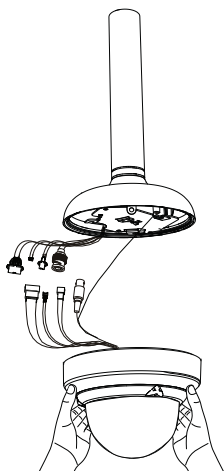

Figure 5.6 Connect Cables
2. Attach grounding wire from unit to the mounting cap (see *Figure 5.6*).